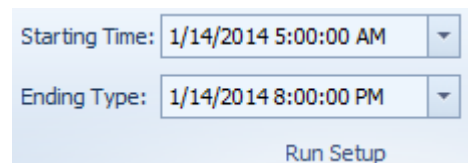

Figure 4.5: Replication Start and Stop Time
Step 1: Arrivals are only present from 5am to 8pm for a total of 15 hours each day. A simulation run length of 24 hours would cause the time-based statistics like number in station, number in queue, and scheduled utilization to be computed when there were no arrivals, causing lower than expected values for these statistics. Therefore we will set the *Starting Time* within the “Run Setup” tab to 5:00 am and the *Ending Type* to *Specific Ending Time* at 8:00 pm as shown in Figure 4.5